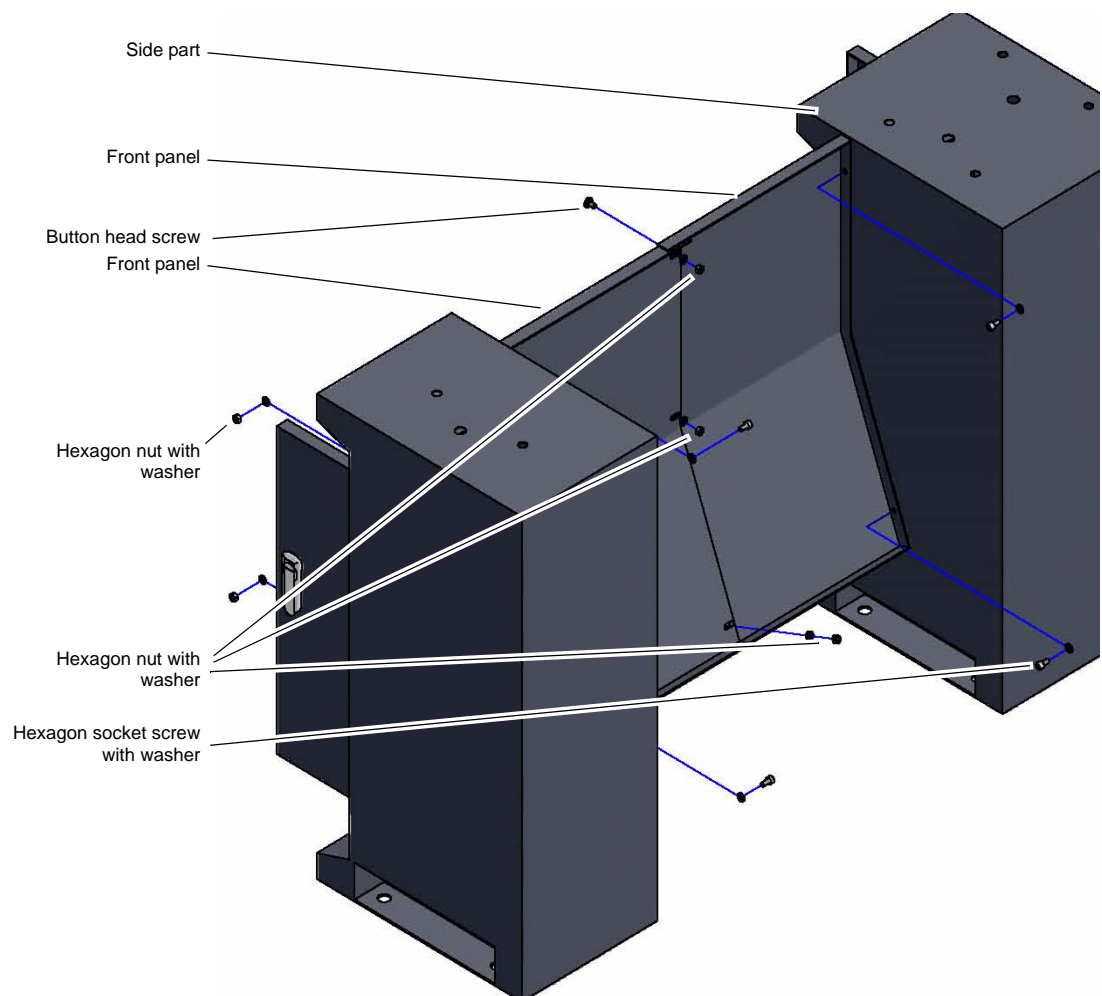

Fig.1-1: Assembly scheme machine stand - rear view
- Mount the front panels to the side parts of the machine stand as shown on Fig.1-1: „Assembly scheme machine stand - rear view“ on page 4 using the attached fixing material. Slightly tighten the hexagon socket screws.